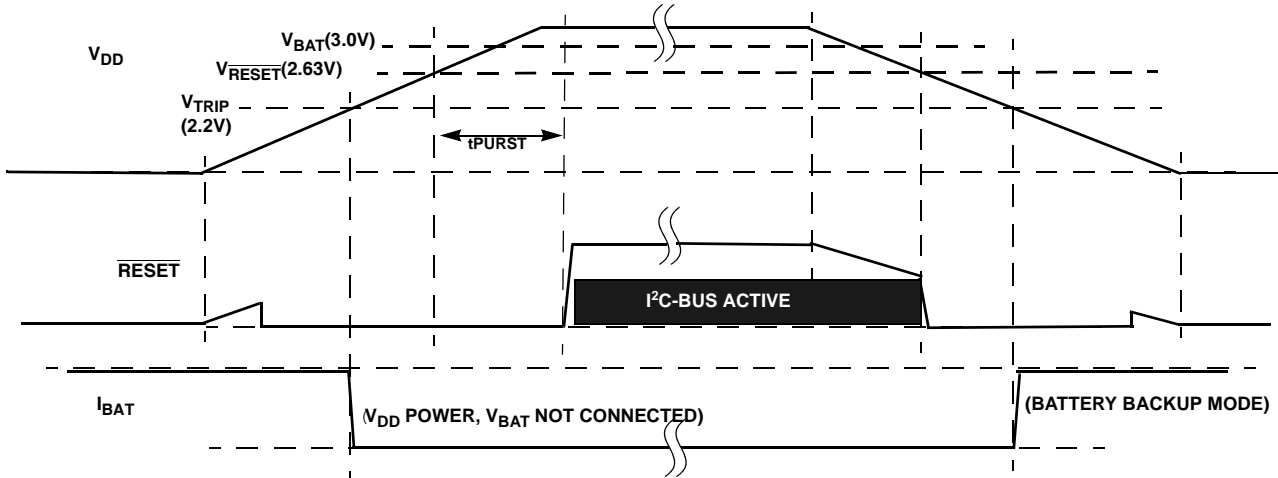

FIGURE 29. EXAMPLE RESET OPERATION IN MODE A OR C
- Mode A - In this mode, selection bits indicate a low  $V_{DD}$  switchover combined with I2C operation in battery backup mode. In actuality the  $V_{DD}$  will go below  $V_{\overline{RESET}}$  before switching to battery backup, which will disable I2C ANYTIME the device goes into battery backup mode. Regardless of the battery voltage, the I2C will work down to the  $V_{\overline{RESET}}$  voltage (see Figure 29).
- Mode C - In this mode, the selection bits indicate a low  $V_{DD}$  switchover combined with no communications in battery backup. Operation is actually identical to Mode A with I2C communications down to  $V_{DD} = V_{\overline{RESET}}$ , then no communications (see Figure 29).